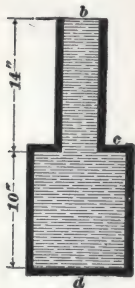

FIG. 5.
**11. Upward Pressure.**—In Fig. 5 is represented a vessel of exactly the same size as that shown in Fig. 4. There is no upward pressure on the surface *c* due to the weight of the water in the large part *c d*, but there is an upward pressure on *c* due to the weight of the water in the